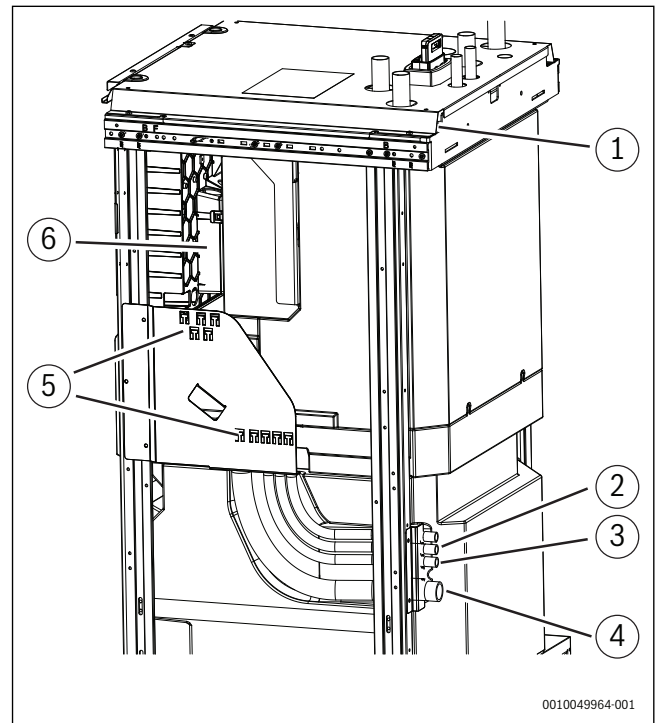

Fig. 31 Cable inlets to the indoor unit
- Feed the connecting cables over the cable glands on the back through the corrugated hoses. Use an extension string. See figure 31 for the correct order of the hoses.